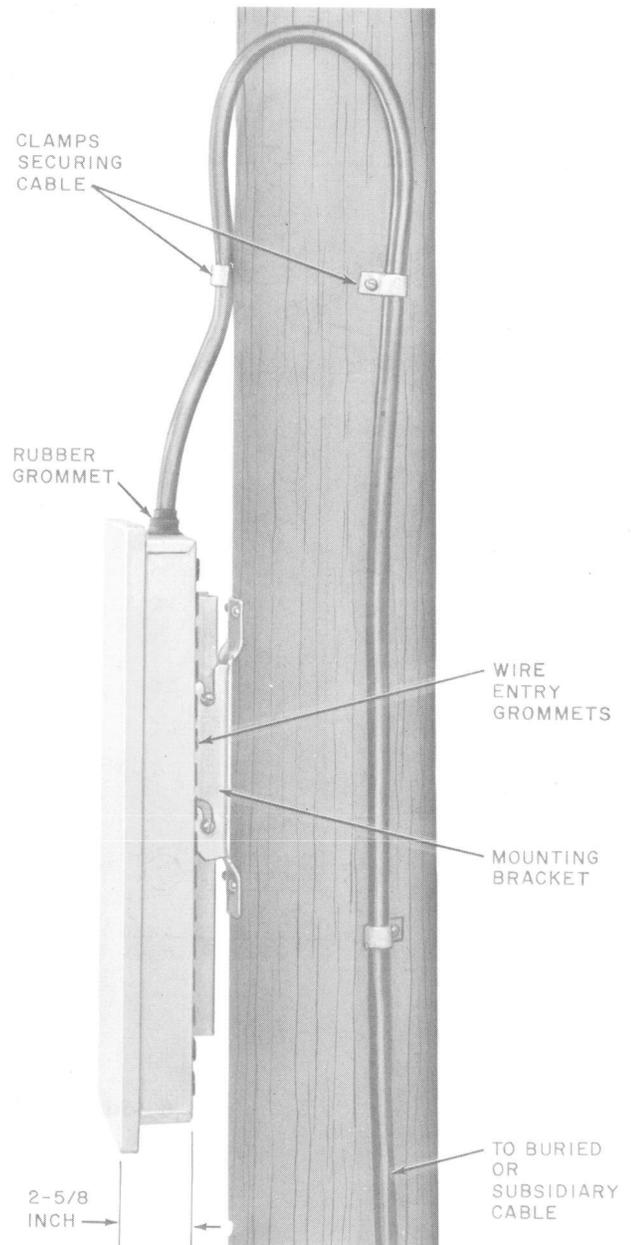

Fig. 5—53A3-50P Cable Terminal Installed on Mounting Bracket
4.03 Install the 53A3-50P cable terminal on the mounting bracket as shown in Fig. 5. **Do not mount the cable terminal with the stub extended through the bottom hole in the housing as this would reverse the color code in the stub.**
4.04 Tighten the weathertight box connector (Fig. 5) firmly to ensure a weathertight seal.
4.05 When the cable splice is below the installed terminal, form the stub down the wall or pole to the splice as shown in Fig. 5.